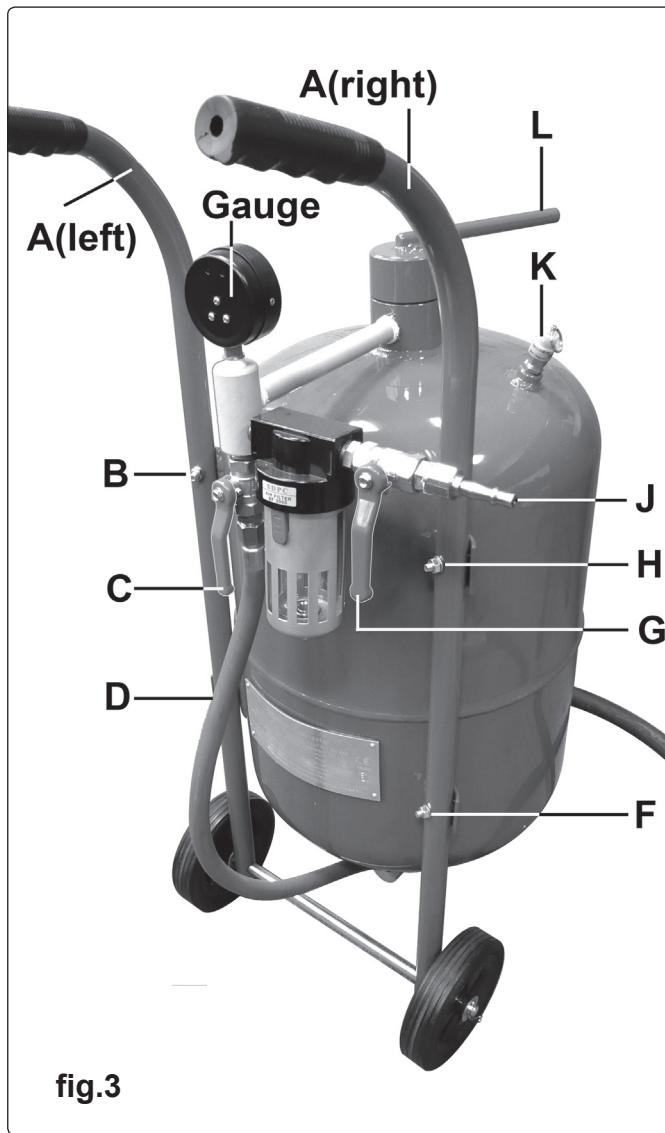

fig.3
- 4.1.2 There is a specific left hand and a specific right hand handle as the mounting holes in them are at different angles. When correctly fitted the two handles should be parallel. Referring to fig.3, loosely attach the two handles (A) onto the fixing brackets (B, D, F & H) using the nuts, bolts and washers provided. Do not tighten yet.
- 4.1.4 Now tighten the nuts and bolts at the four handle mounting positions. (B, D, F & H in fig.3).